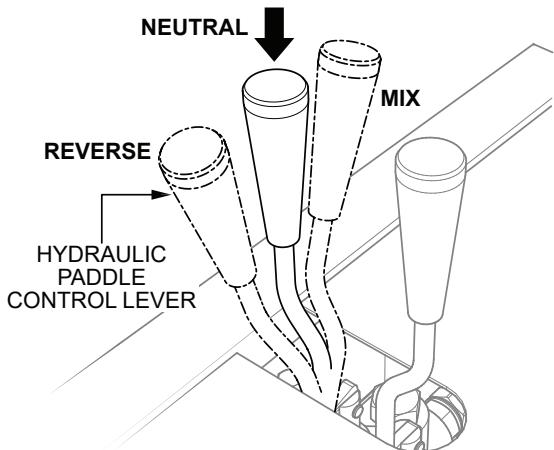

Figure 23. Hydraulic Paddle Control Lever (Neutral Position)
2. Make sure the hydraulic paddle control lever (Figure 23) is in the **neutral** position.